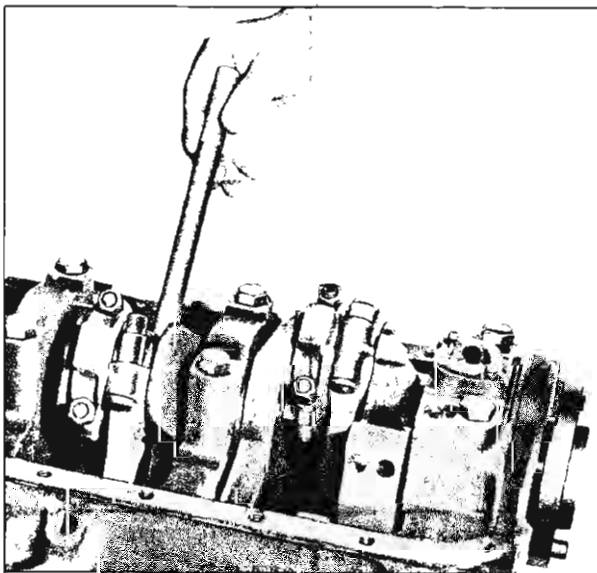
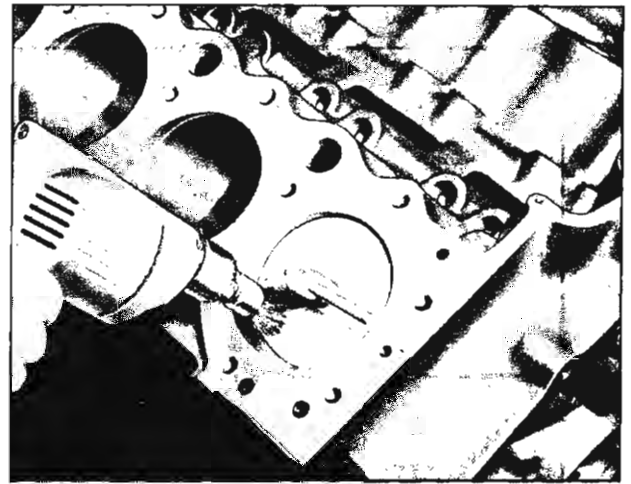

Fig. 159—Removing Piston Assemblies
Fig. 160—Removing Carbon from Combustion Chamber
27. Remove connecting rod journal bearings caps and install Tool J-5239-3 and 4 on studs. Push piston assemblies out of top of cylinder block (fig. 159). If piston rings strike ridge at top of cylinder, remove ridge to prevent damaging piston ring lands with Tool J-6991 inserted in each cylinder while using Tool J-8089 (fig. 160) or a ridge reamer that pilots in cylinder bore may be necessary.